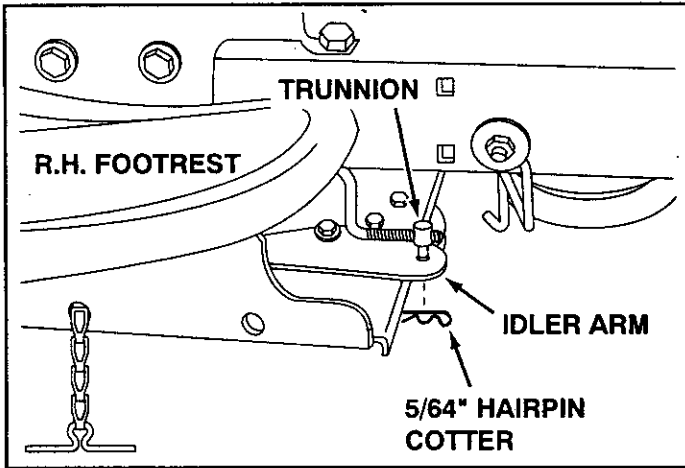

FIGURE 10 RIGHT SIDE VIEW
- Position the idler arm so that it points straight forward, as shown in figure 10. Align the engagement rod trunnion with the hole in the idler arm by screwing the trunnion in or out on the rod. Attach the trunnion to the idler arm using a 5/64" hairpin cotter. See figure 10.